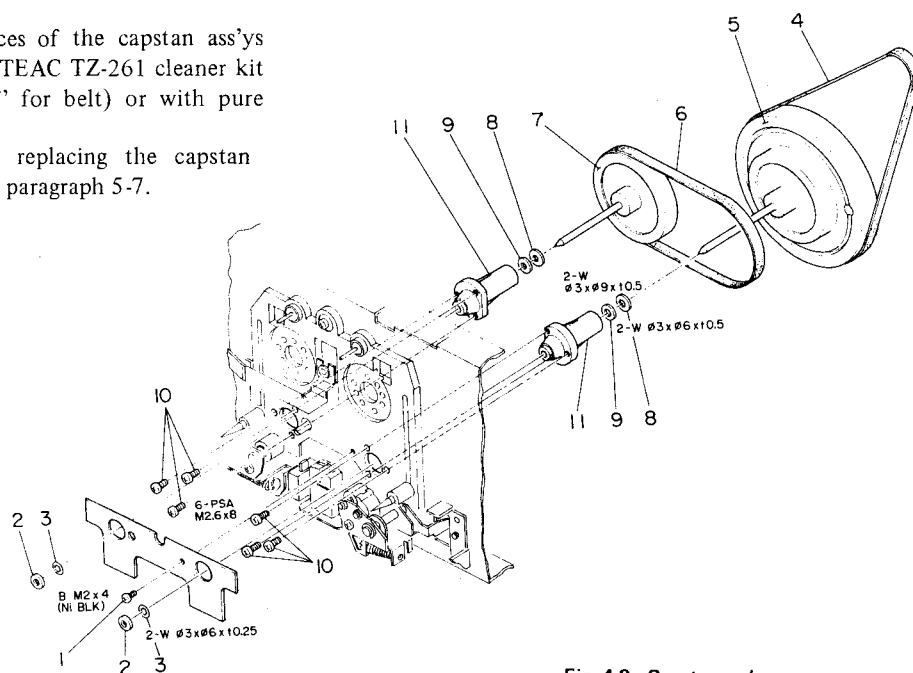

Fig. 4-8 Capstan ass'ys
6. Fig. 4-8, 4, 5, 6, 7, 8, 9.